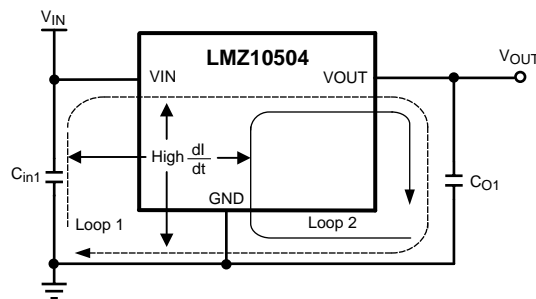

Figure 21. High Current Loops
From an EMI reduction standpoint, it is imperative to minimize the high di/dt current paths. The high current that does not overlap contains high di/dt, see Figure 21. Therefore physically place input capacitor (C_{in1}) as close as possible to the LMZ10504 VIN pin and GND exposed pad to avoid observable high frequency noise on the output pin. This will minimize the high di/dt area and reduce radiated EMI. Additionally, grounding for both the input and output capacitor should consist of a localized top side plane that connects to the GND exposed pad (EP).